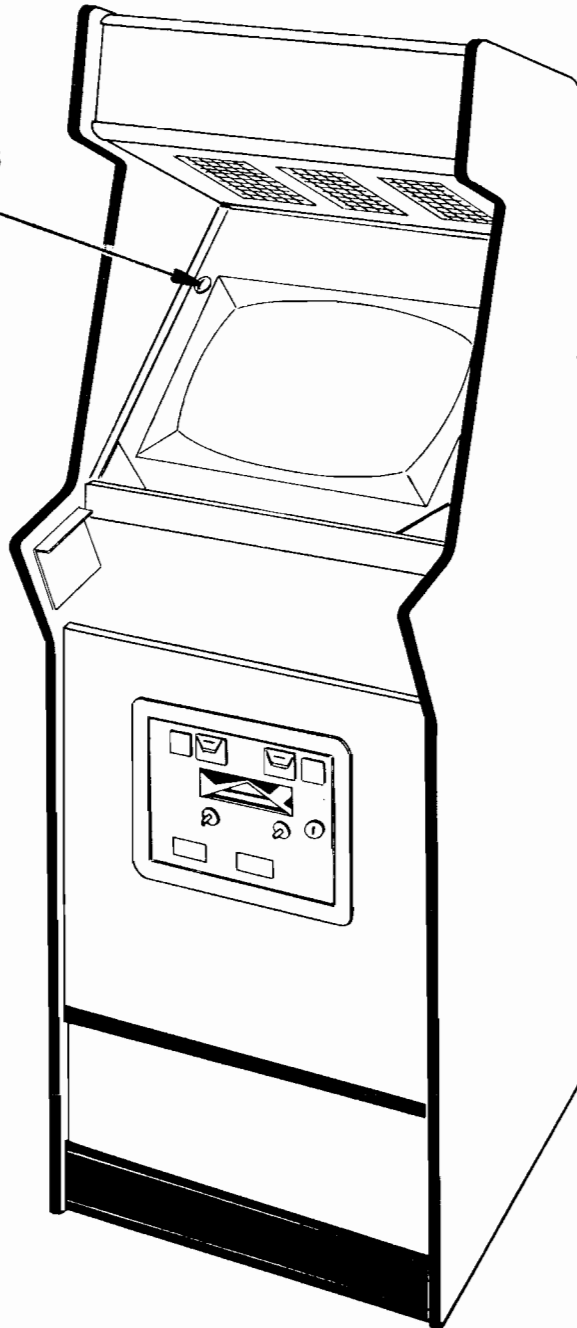

FIG. 16
- b. Remove the screws which secure the glass clamping plate. See Figure 16.
- d. By putting your finger in the hole in the center of the main-display-glass support, you can lift it up and out. See Figure 16.